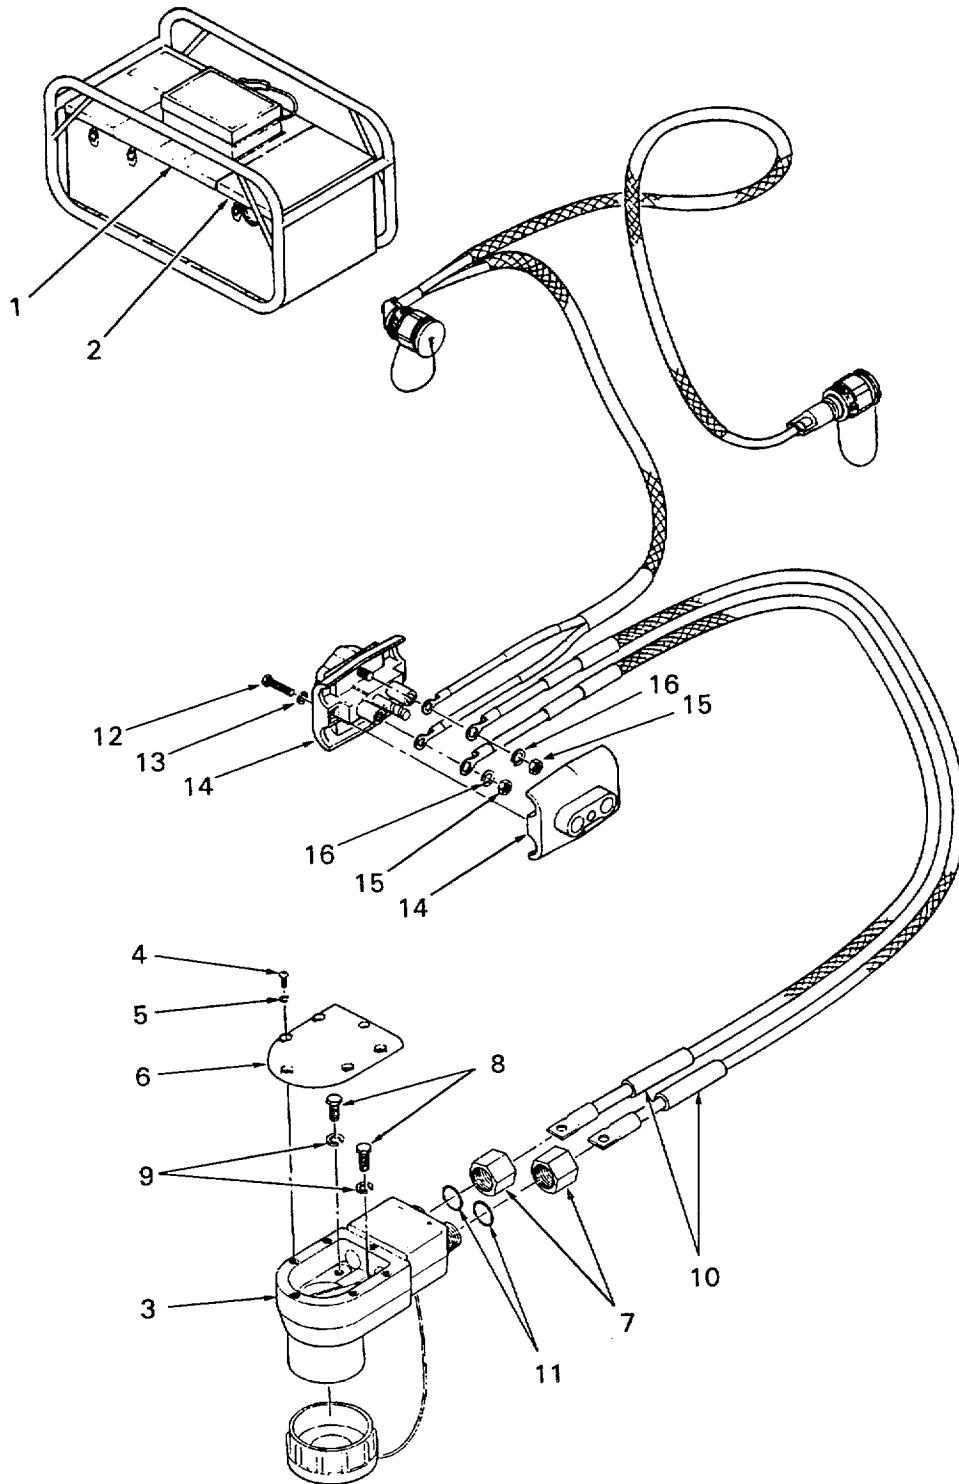

Figure 4-26. Battery Cable Repair
4.15.3 Repair Battery Cable. (Refer to figure 4-26.)